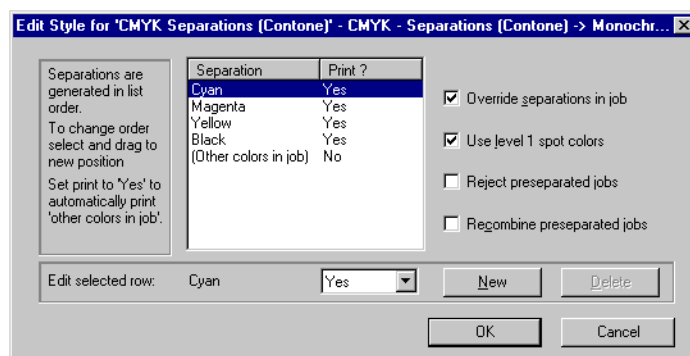

Figure 12.11 Edit Style dialog box
- Otherwise, a more compact dialog box displays only the options for separations, as shown in Figure 12.11. This form of the dialog box suits contone output and also output to devices and processes that do their own screening.
This dialog box contains a list showing the separations that the RIP can produce. There are initially separations for the process colors in the selected color space. In Figure 12.11 there are separations for the four process colors in the CMYK color space.